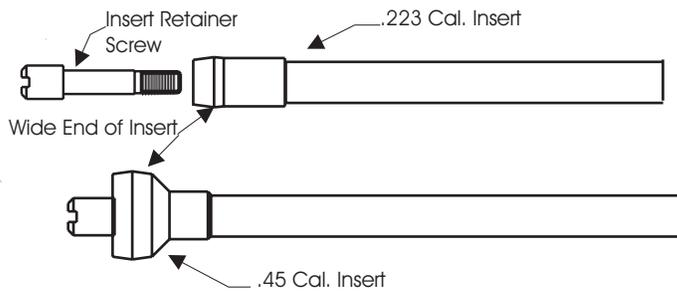

FIGURE 2-2
2. Slip the appropriately sized insert onto the Insert Retainer Screw. The widest end of the insert is slipped onto the Insert Retainer Screw first. See Figure 2-2 below.